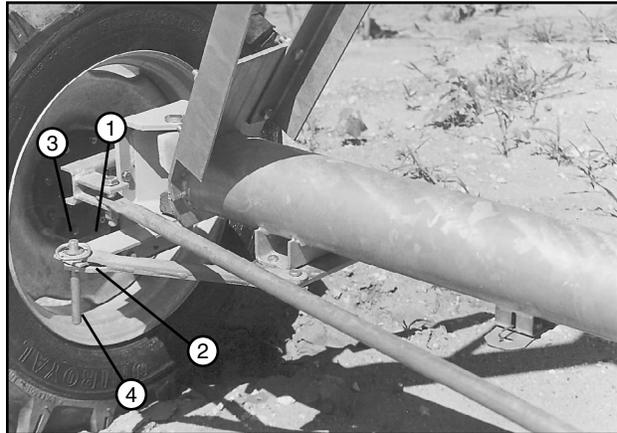

Figure 40-1 1. Steering Arm 3. Torque Pin
14. Position each steering arm in tow link bar yoke, align holes, then attach each steering arm to tow link bar with torque pin and secure with lynch pin. It may be necessary to move the tongue for proper alignment of the holes. See figure 40-1.